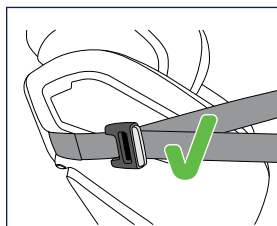

Figure 18
Step 2. Ensure there are no twists and turns in the top tether strap and that the adjuster is positioned facing outwards, flat against the restraint. (Figure 18).